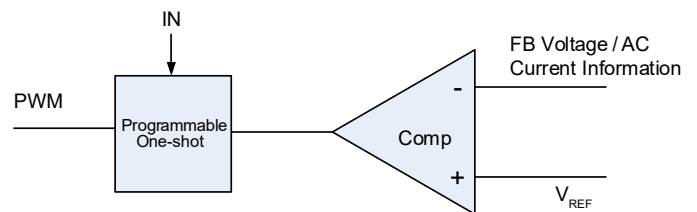

Figure 9. Simplified Control Schematic of AOZ21502QI-10
The control algorithm of AOZ21502QI-10 is constant-on-time control with input feed-forward. The simplified control schematic is shown in Figure 9. The high-side switch on-time is determined solely by a one-shot whose pulse width is inversely proportional to input voltage (IN). The one-shot is triggered when the internal 2V is higher than the combined information of FB voltage and the AC current information of inductor, which is processed and obtained through the sensed low-side MOSFET current once it turns on. The added AC current information can help the stability of constant-on time control even with pure ceramic output capacitors, which have very low ESR. The AC current information has no DC offset, which does not cause offset with output load change, which is fundamentally different from other  $V^2$  constant-on time control schemes.